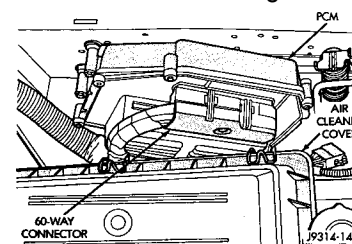

Fig 8
*(Next to air cleaner - Cherokee / Fig. 8
3. Disconnect the 60-pin connector from the controller using an 8mm socket wrench (5/16 inch will also). (Fig. 8 or 9)